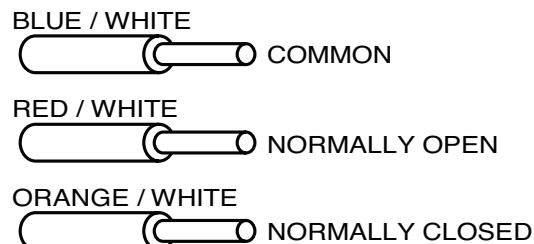
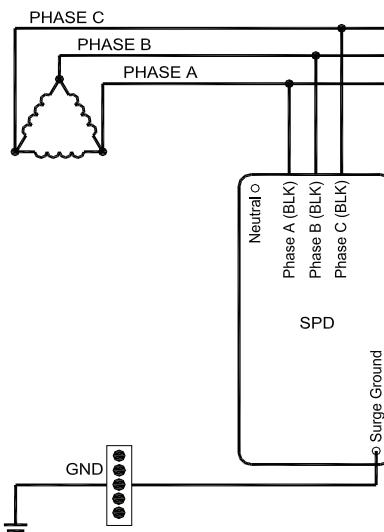

Figure 5. form C contact relay wire color codes
Figure 6. 3-phase, delta units
5. Select the correct wiring diagram for the SPD you are installing. You must refer to this diagram while wiring the SPD. See Figures 6 and 7.
**Note:** For wire lengths longer than six (6) inches, maximize SPD performance by twisting once for every four (4) inches of wire length.
8. BSPD *Standard* and *Standard with Surge Counter* configurations have a Form C contact relay for remote monitoring. The Form C contacts are rated at 150Vac/125Vdc at 1A max. Make the remote monitoring connections per the Form C contact relay wire color codes in Figure 5. Follow all national, state and local electrical codes and agency standards when making these connections.